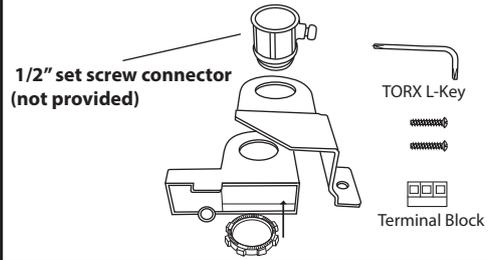

Fig. 58
- Feed wires through conduit adapter assembly. Then connect field wires to terminal block as shown in Fig. 58.